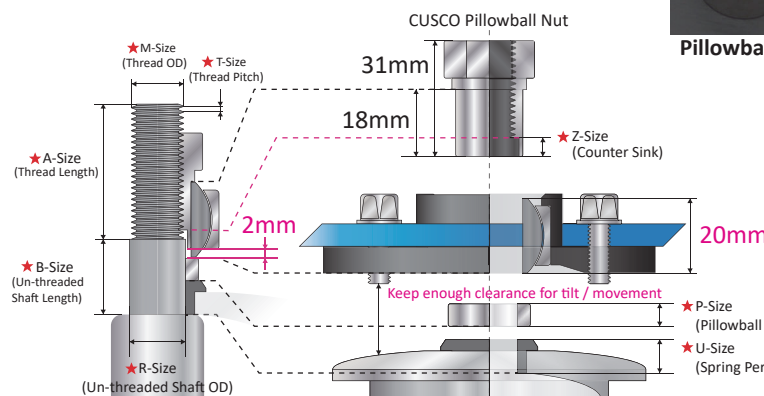

Fig.2 Size/Location of CUSCO Upper Mount Components
- How to calculate Countersink (Z): Z=B-U-P (Fig.2) - This can help to have enough thread area of strut shaft on top.